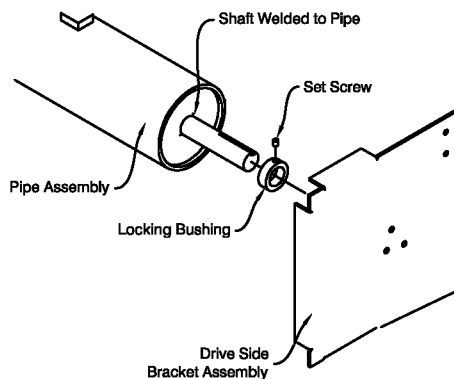

Fig. 9
a) **Push-up operation** - Assemble the drive (governor) bracket on the drive side shaft of the pipe assembly (drive side is the side with the shaft welded to the pipe) as shown in Fig. 9. Lock all set screws in place. **NOTE:** Brackets are shown as right hand drive, left hand drive is opposite. *Doors under 4'-0" high are not supplied with a governor.